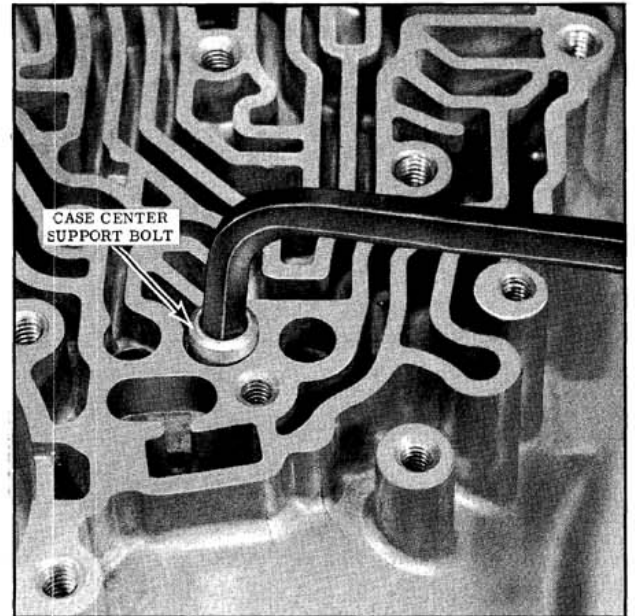

Fig. 6-70 Removing Case Center Support Bolt
11. Remove the case center support to case bolt. (Fig. 6-70)